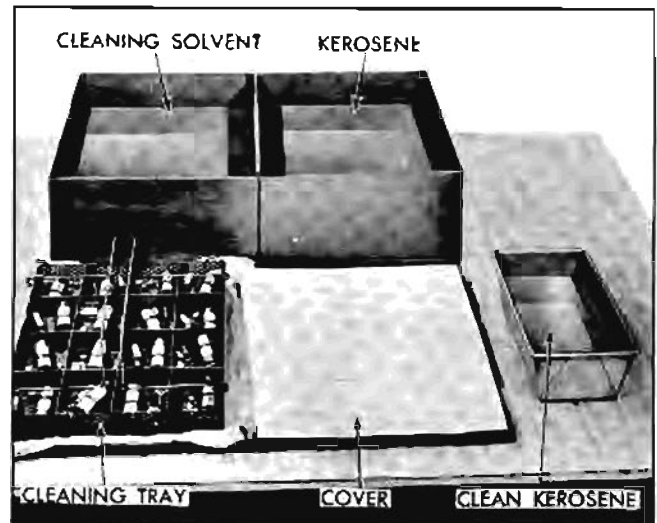

Fig. 6-23 Lifter Wash Tank and Tray
3. Drain oil out of lifter body and place all valve lifter parts in separate compartment of tray from Wash Tank J-5821 (Fig. 6-23).